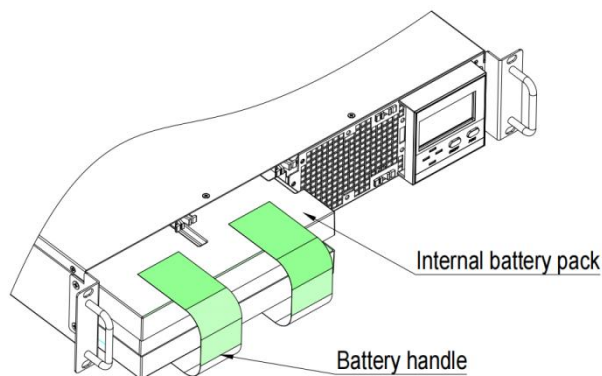

Fig.8-2 Pulling out the internal battery pack
Step 4: Grasp the battery handle, and pull the internal battery pack out of the UPS, as shown in Fig.8-2.